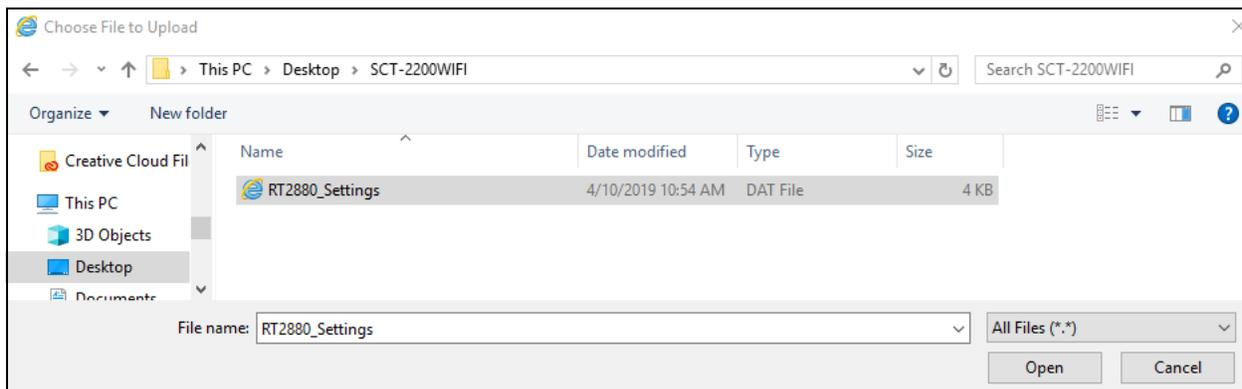
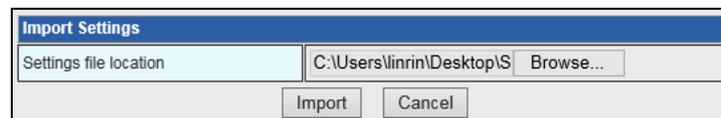

Figure 4-20. Find the File Location
Figure 4-21. File name
2. Follow the prompts to find the location of the DAT file. See Figure 4-20.
3. Click **Open**. See Figure 4-20. The file name will populate the box. See Figure 4-21.